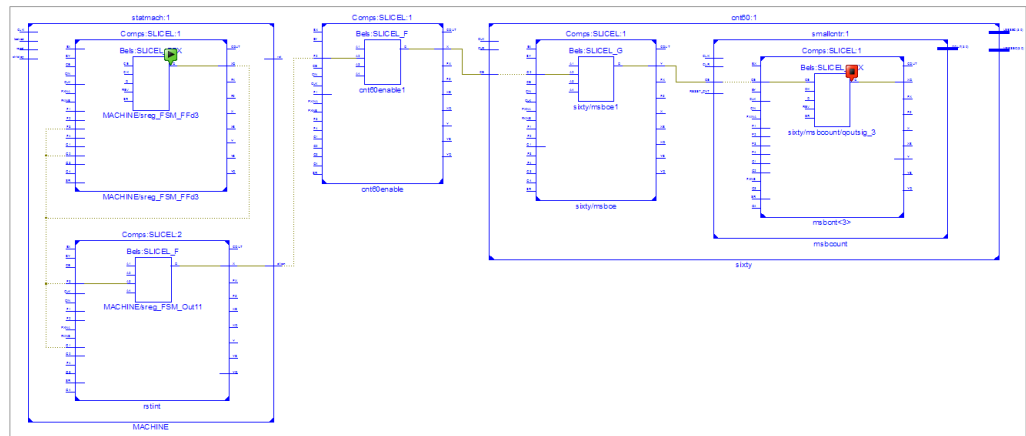

Figure 6-5: Schematic Viewer
- Selecting (1) **Maximum Data Path** allows you to visualize the entire data path.
- Selecting (2) a net from the Physical Resource column visualizes just a portion of a data path connected by a selected net.
1. Right-click **Maximum Data Path**, and select **Show in Technology Viewer**. This draws the selected data path in the Schematic Viewer as shown in Figure 6-5.